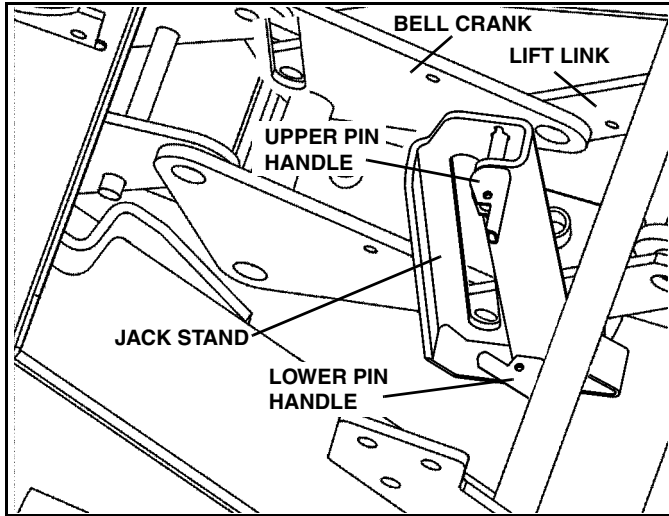

Figure 1-24
6. Disengage both jack stand pins by pulling on handles. Raise the jack stand and engage the bottom pin by pushing on the handle. Make sure pin is engaged in hole by rotating jack stand back and forth. (See Figure 1-24).